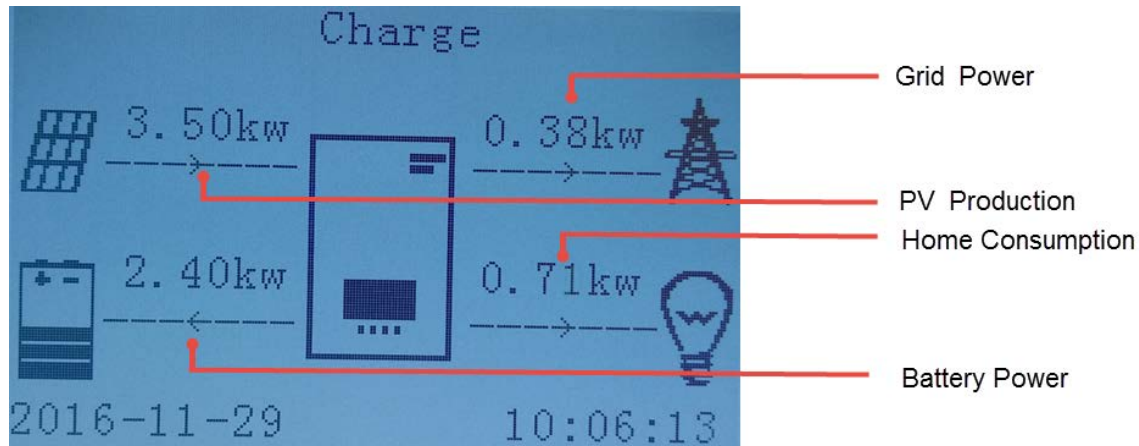

Fig 15. Screen of ME3000SP
6) Make sure the electricity consumption in ME3000SP’s phase is greater than 200W. “Grid import power” shall equal “Home Consumption” now. (fig 15)
7) Turn ON PV inverter. “PV Production” shown on ME3000SP shall equal total power generation in ME3000SP’s phase now. (fig 15)
While "PV Production" > "Home Consumption" (fig 15)
While "PV Production" < "Home Consumption" (fig 15)